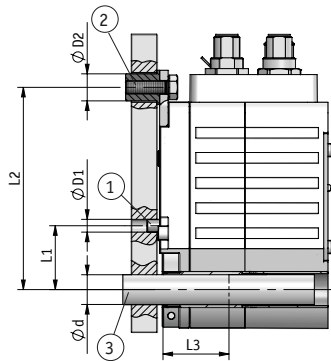
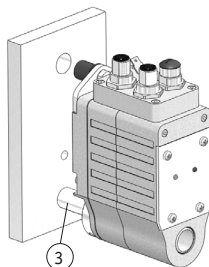
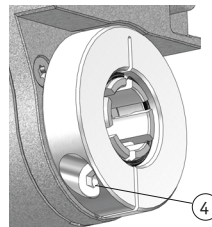
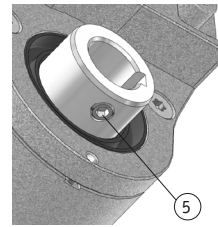

Fig. 1: Mounting dimensions
Fig. 2: Mounting
Fig. 3: Shaft with clamp collar
Fig. 4: Shaft with feather key groove
- ▶ Ensure a low shaft and angle offset between shaft and accommodation bore by applying appropriate manufacturing methods (see Fig. 1 + Tab. 1).
Preparing mounting (Fig. 1, Fig. 2, Fig. 3, Fig. 4):
Mounting (Fig. 1, Fig. 2, Fig. 3, Fig. 4):